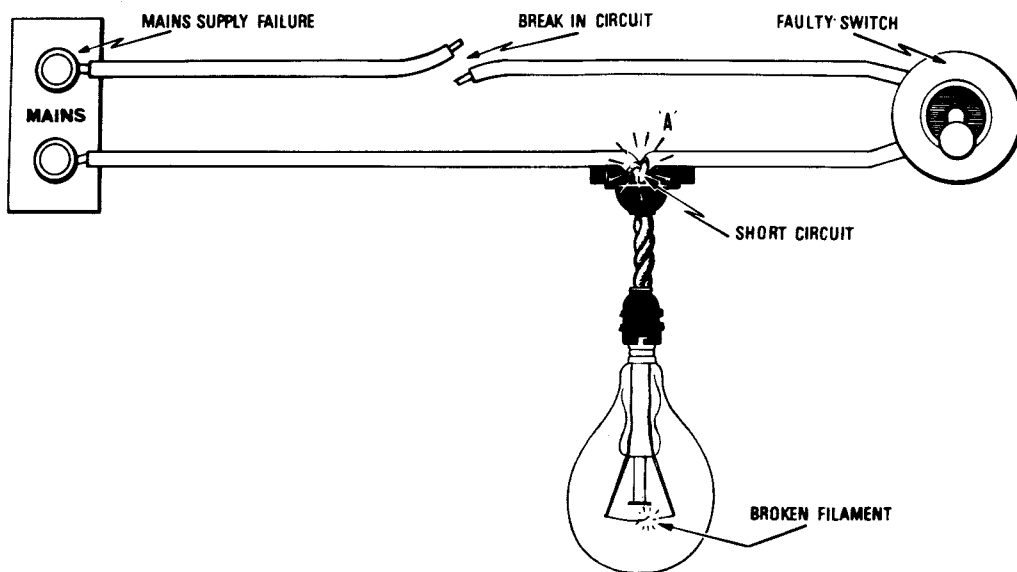

Fig 20.2 Circuit failure
- **Faulty insulation**; if the rubber or plastic insulation wears through at point A in Fig 20.2 the wires would touch and current would flow back to the mains without passing through the lamp filament. This is called a *short-circuit*.